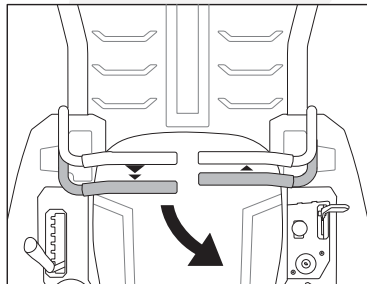

Fig. 18B
2. To turn to the left while traveling in reverse, move the right drive control lever forward of the left drive control lever. (Fig. 18B)